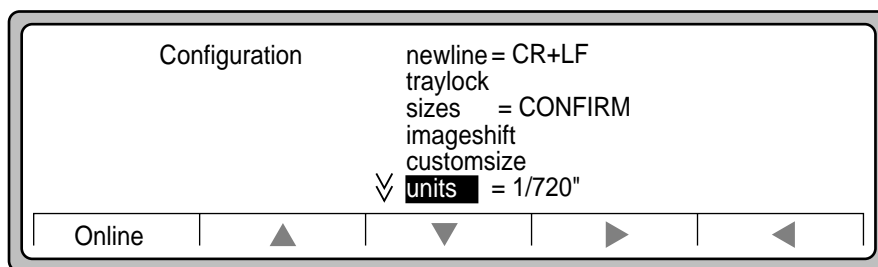

Figure 3-18 Configuration options
8. Press ► to get Configuration options (Figure 3-18).
9. Press ▼ to select units. (Figure 3-18).